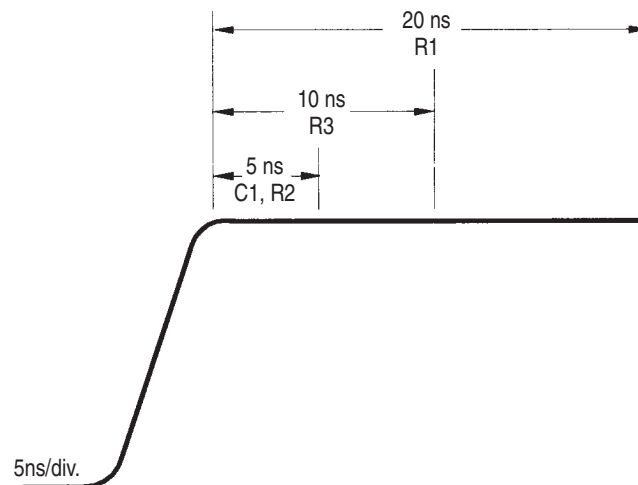

**Figure 8: High-frequency adjustments locations**
5. Use the low-reactance nonconductive adjustment tool to adjust LF COMP (low-frequency compensation) for the squarest waveform front corner edge. Refer to Figures 8 and 9 for further details.
See Figure 8 for the location of all adjustments to follow and Figure 9 for identification of the waveform area affected by each adjustment. The high-frequency adjustments affect probe bandwidth. A small overshoot on the leading edge of the pulse may be necessary to meet the bandwidth specification.